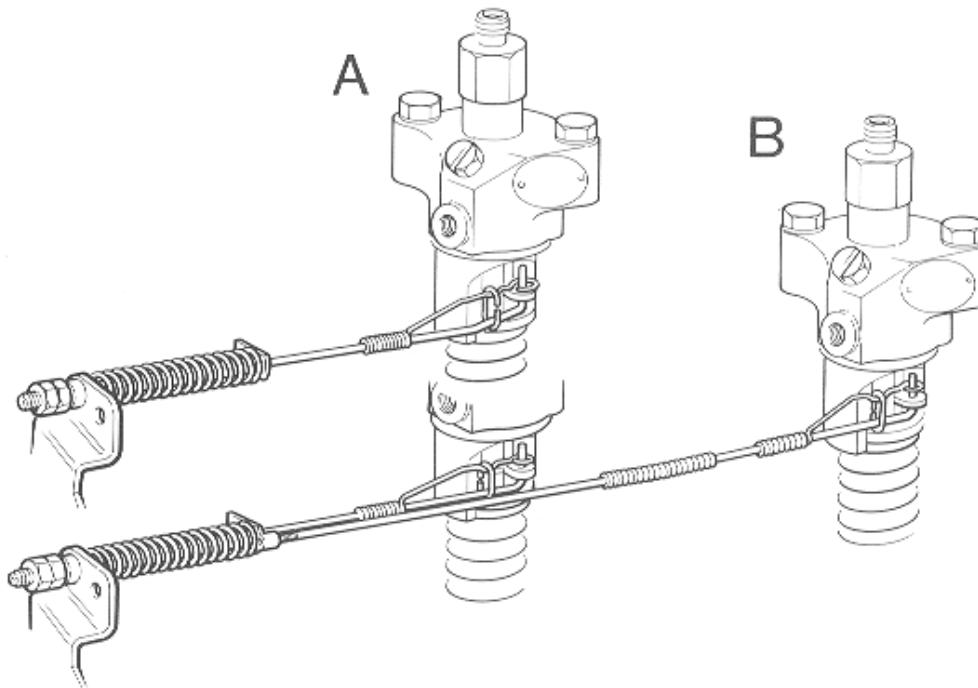

Figure 62. Fuel Pump Governor Linkage:
5. Connect the governor link and LT/LV2 pump interconnecting linkage to the pump as shown in Figure 62.